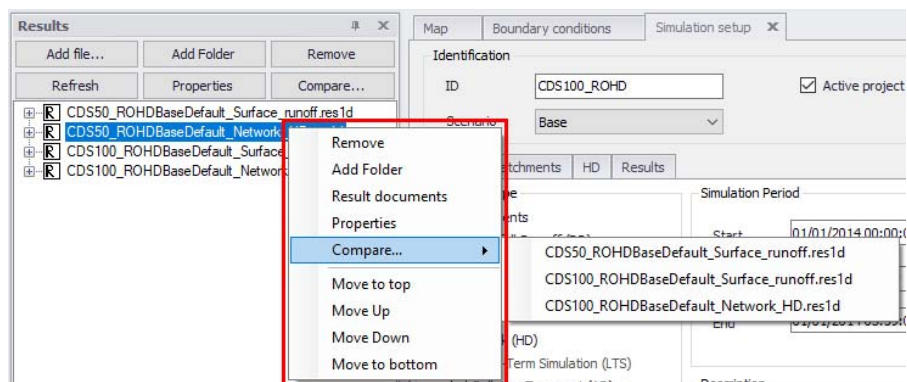

Figure 20.99 Compare results via the local context menu
- Alternatively, launch a file comparison via the results manager local context menu by right-clicking on a result file layer (Figure 20.99).